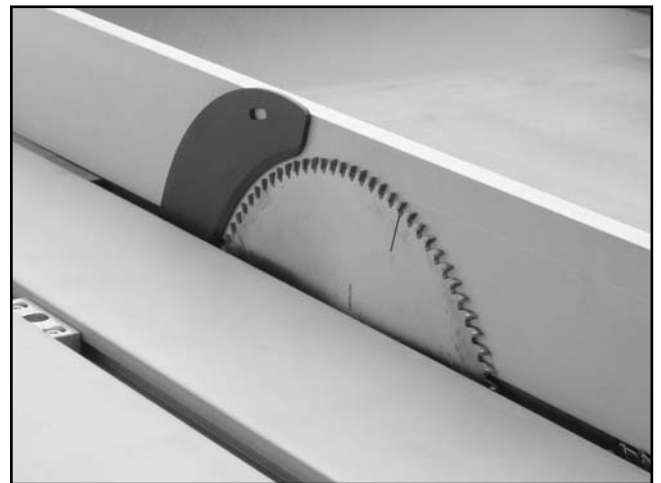

Figure 64. Fence against blade as a guide for aligning the scoring blade.
- Remove the stop bolt from the rip fence, and move the rip fence against the main blade (or scoring blade) as shown in **Figure 64**.
- Use the control panel to move the scoring blade so that the rip fence can touch both the scoring blade and the main blade when positioned as shown in **Figure 64**.